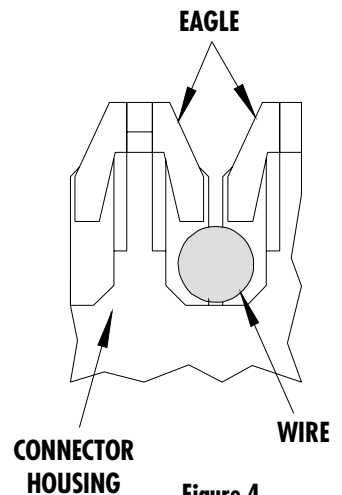

Figure 4
8. Check for wire insulation depth in the location slot. The wire insulation must be just below the "eagle" of the connector housing. See Figure 4.